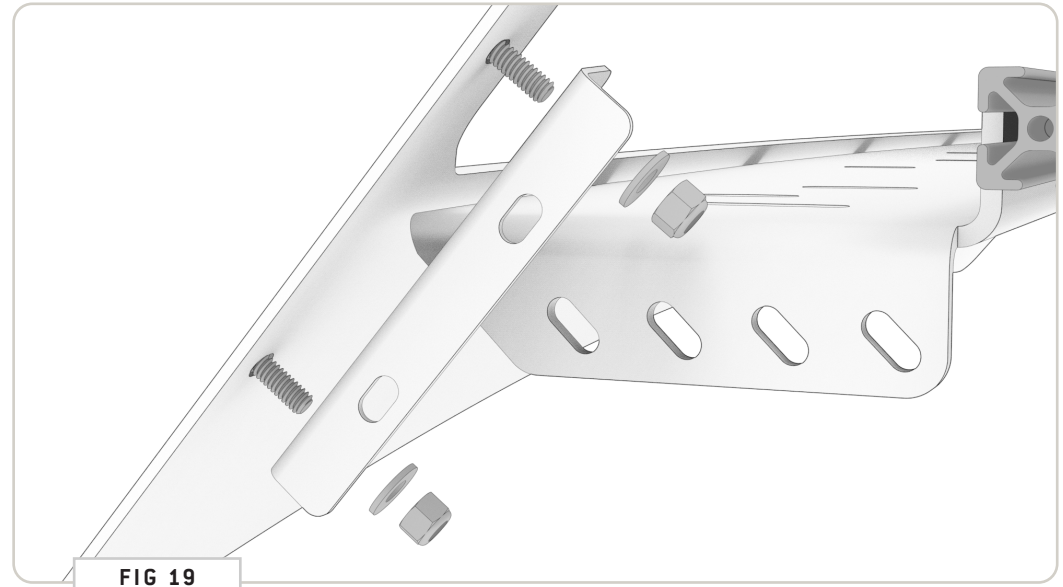

FIG 19
5.4 Attach Fairing Side Brackets: Loosely attach **Fairing Side Brackets** to the **Fairing Assembly** using **1/4"-20 Flanged Head Screws, Flat Washers and Nylock Locknuts**. Note that the flanged face of these Fairing Brackets will face outward as shown in **FIG 19**.